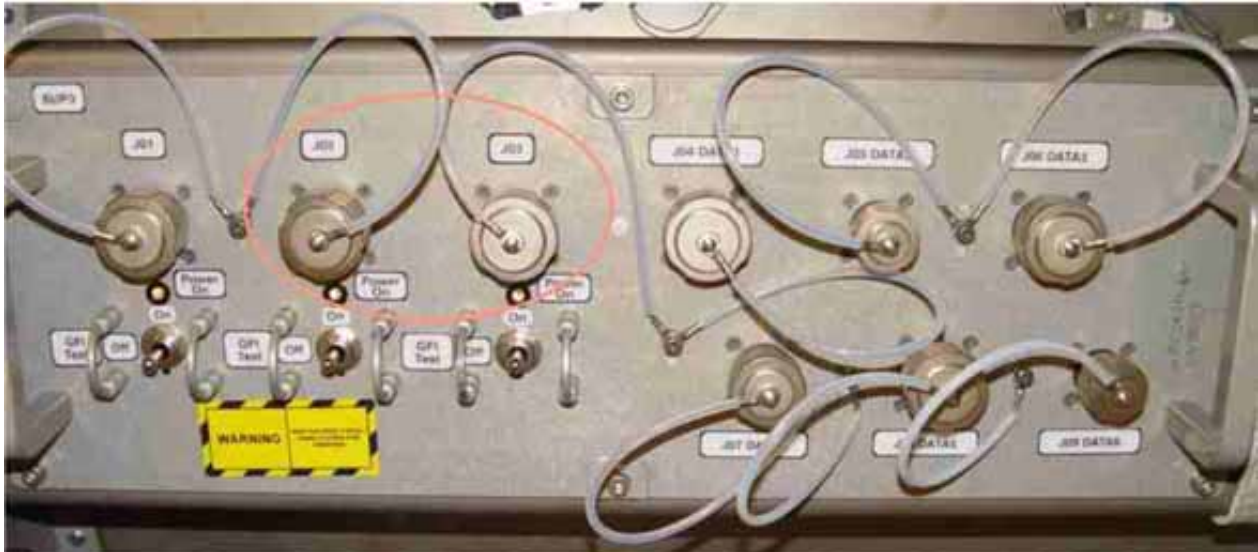

Figure 1. Highlighted SUP Power Outlet 2 (3) and Power Indication Light location
- Refer to Figure 1 and Table 3